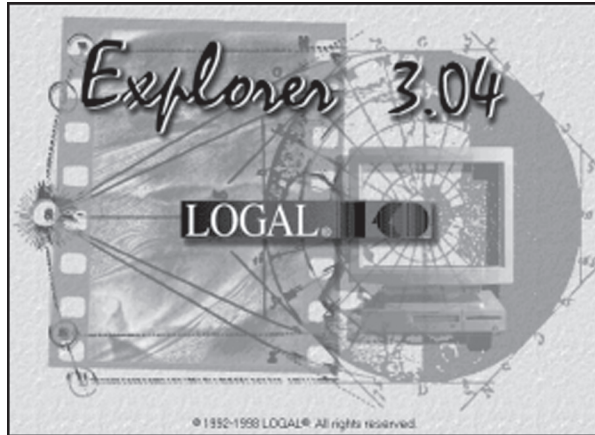

Figure R6.1 | LOGAL Splash Screen
- C.** When you get the LOGAL Explorer 3.04 “Splash Screen,” click on it to continue (Figure R6.1).